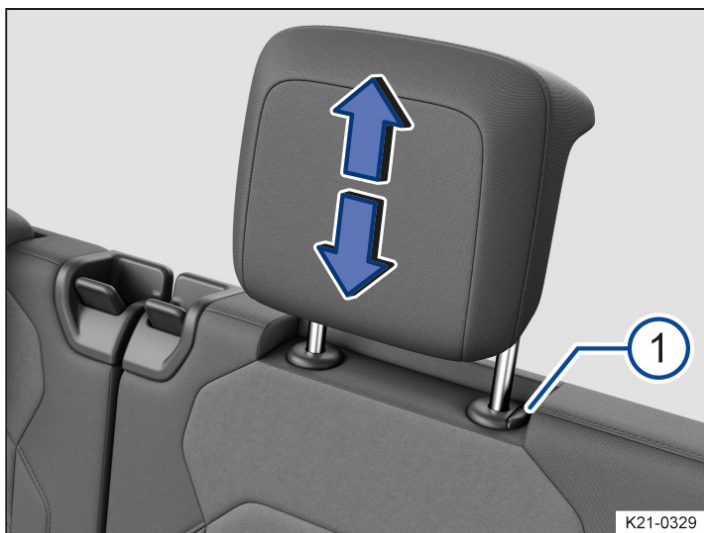
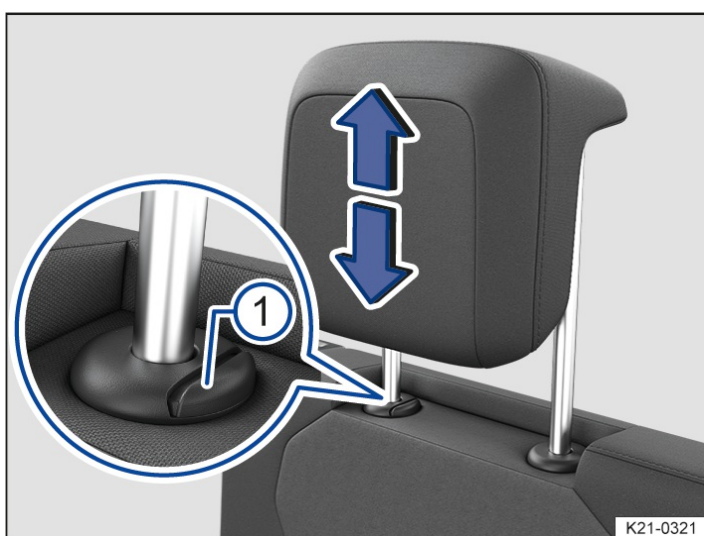

Fig. 3 General example: removing head restraints on the second-row seats.
Fig. 4 General example: removing head restraints on the third-row seats.
3. Pull the head restraint all the way out while pressing the → *fig. 3* **1** or → *fig. 4* **1** button.
3. Push the head restraint downward while pressing the → *fig. 3* **1** or → *fig. 4* **1** button.